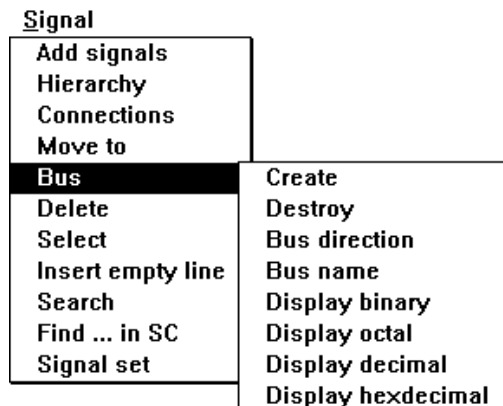

Figure 1-36. Bus Menu.
- ☐ Select from Figure 1-36 the appropriate bus format
- ☐ Select the **BUS Name** option from the window shown in Figure 1-36